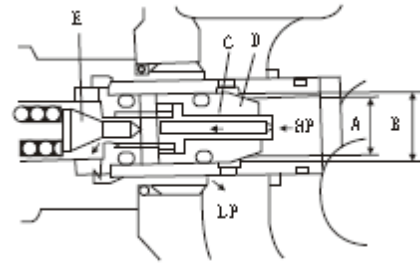

Fig. 5-7
The set pressure in HP passage of oil pump acts on the guide valve spring. Then, the one-way valve F will be opened and the oil flows to the low-pressure (LP) side through the through-holes around the valve. See Fig. 5-7.